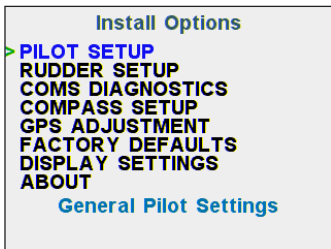

Figure 3:- Install Options
- While in the Pilot Settings screen, to enter the Install Options menu (Figure 3) press both **MODE & AUTO** buttons simultaneously.